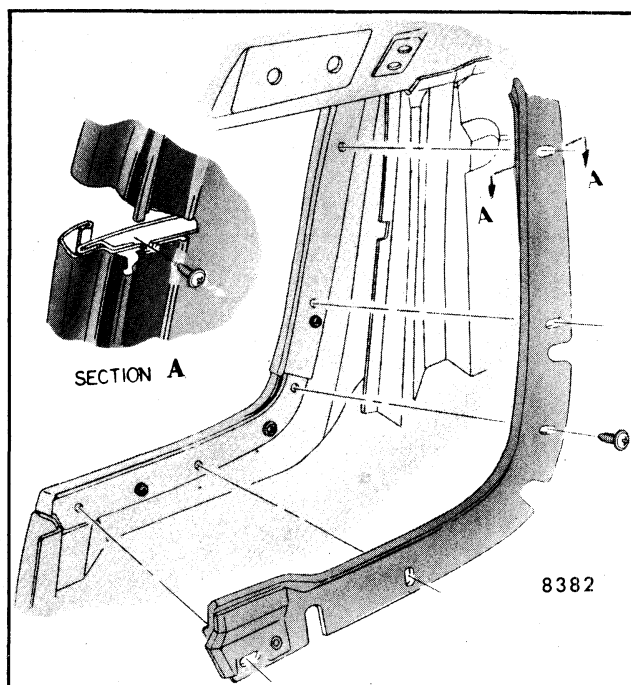

Fig. 6-37-Quarter Window Outer Sealing Strip Installation ("B-57" Shown - "E-67" Similar)
2. To install, align holes in outer panel and sealing strip and install attaching screws (Fig. 6-37), then engage sealing strip to quarter trim attaching clips, install quarter trim and seats.